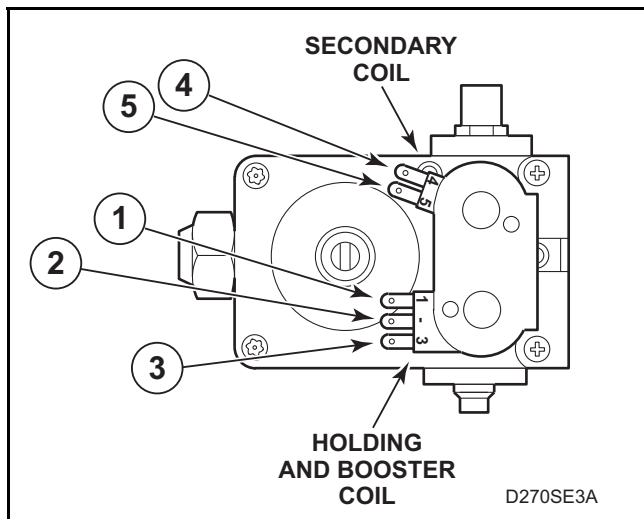

Figure 13
- d. Remove valve wire harness disconnect block from the holding and booster coil. Refer to *Figure 13*.
- e. Set test meter to read Ohms and put meter probes to terminals shown in *Figure 13*, and in the following chart.